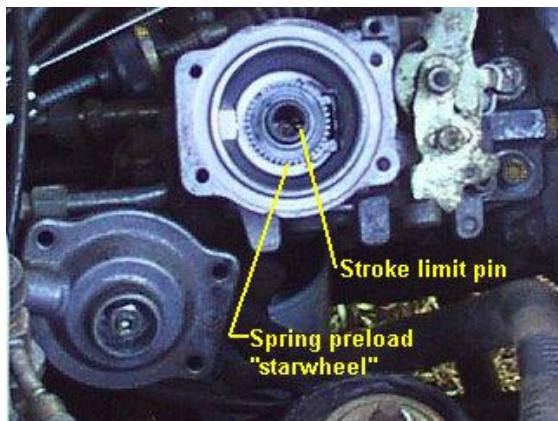

Figure 2
2. The diaphragm spring pre-load, adjusted by rotating the '**starwheel**' on the lower spring seat (See Fig. 2),
- 2.1. Figure 2 shows the 'starwheel' which adjusts the spring pre-load. My spring, marked "7 712", appears to be a linear coil spring. Therefore I have assumed a linear relationship between boost pressure on the diaphragm and diaphragm/control cone depression, shown in Figure 6.
Now, rotate the diaphragm in either direction until it 'pops' up and then withdraw the diaphragm/control cone from the well (see Figure 3). Take care that the spring does not fall out. You should now be able to see the 'starwheel' and perhaps the end of the stroke limit pin in the bottom of the well (see Figure 2). If the stroke limit pin is not visible, operate the throttle lever by hand and the pin should be pushed back into the well. Release the throttle lever and carefully push the stroke limit pin forward with a small screwdriver, to allow the control cone to be returned later.